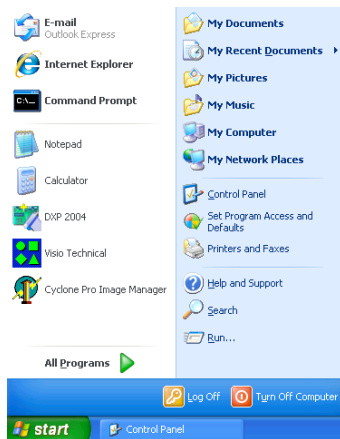
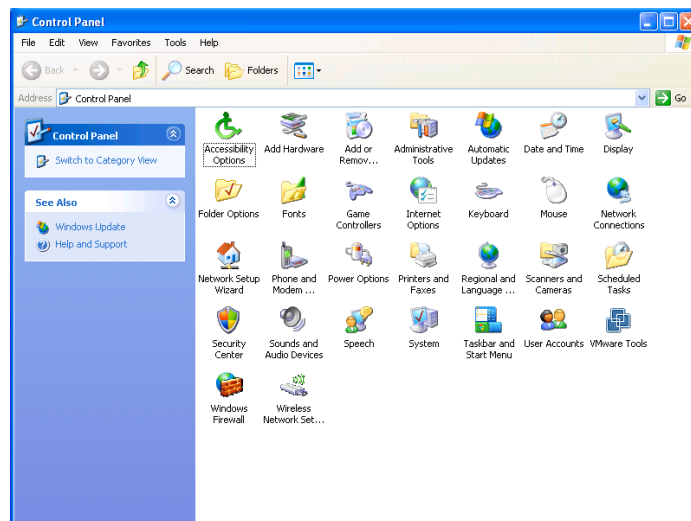

Figure 2.3a—Start Menu
Figure 2.3b—Control Panel
Step 1: Open the control panel by clicking on the start menu and then clicking on Control Panel (Figure 2.3a). (Note that the control panel shown (Figure 2.3b) is in “Classic View.” If the control panel is in “Category View,” select the “Classic View” option before proceeding.)